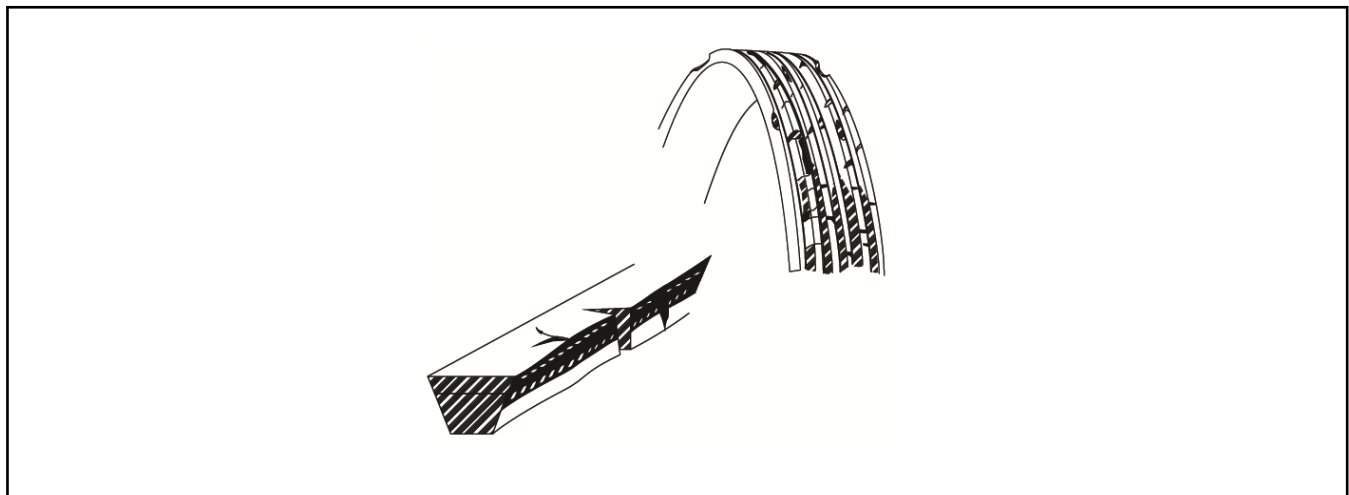

Figure 26 Drive Belt Damage
3. Inspect the drive belt. Look for signs of cracking, separation, cuts, or other damage. See Figure 26.